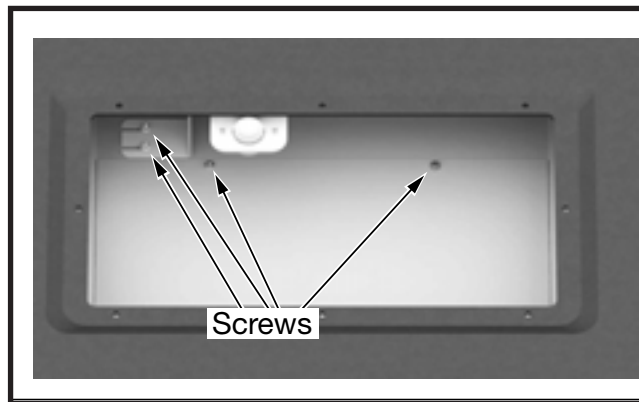

Figure 4: Thermoswitch bracket and access panel screws.
3. Loosen the two screws securing the thermo switch bracket and slide the bracket back and set aside to clear the opening for removing the blower (Figure 4).